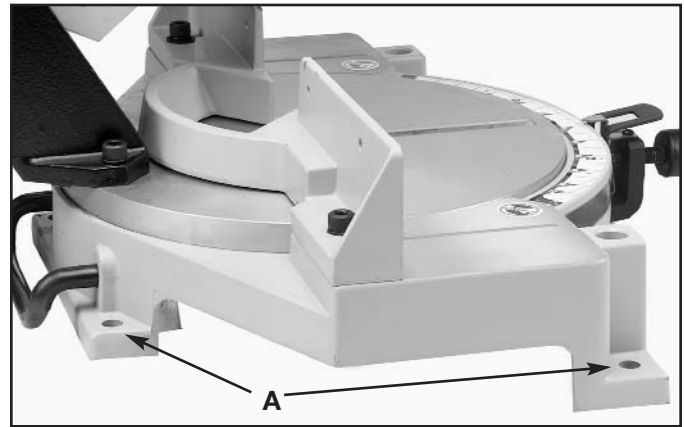

Fig. 7
Before operating your miter saw, make sure that it is firmly mounted to a sturdy workbench or other supporting surface. Four holes are provided, two of which are shown at (A) Fig. 7.